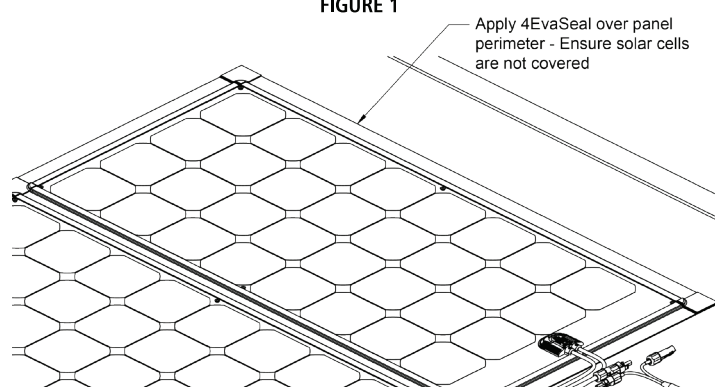

FIGURE 2
4. Apply 4EvaSeal Tape over the perimeter of the panel. Ensure solar cells are not covered. If using tape, ensure good adhesion around entire perimeter of solar panel. (Figure 2)